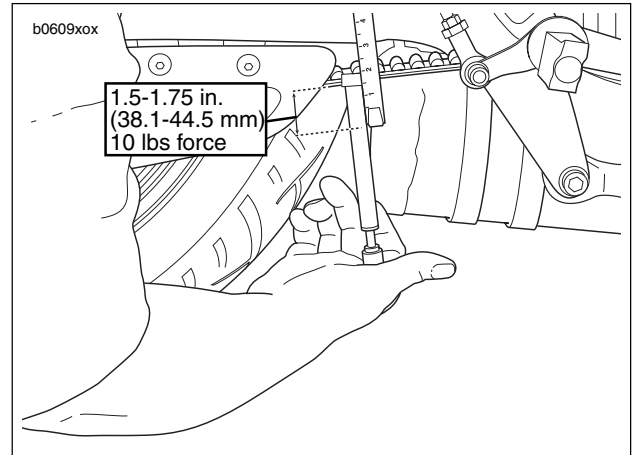

Figure 1-19. Belt Deflection
4. See Figure 1-19. Apply 10 lbs of force using BELT TENSION GAUGE (Part No. HD-35381) at the midpoint of the belt's bottom strand. The deflection should be upward as shown.